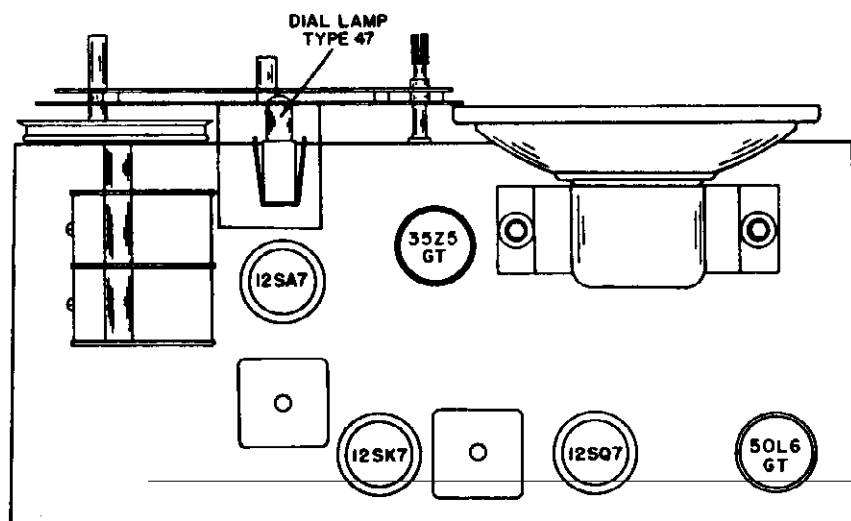

Fig. 2. Top View of Chassis Showing Location of Tubes and Dial Lamp
**TUBE AND DIAL LAMP REPLACEMENT** - Refer to Fig. 2. for the location of the tubes and dial lamp used in the receiver. It will be necessary to remove the back cover from the cabinet to gain access to the tubes and dial lamp. To prevent damage to the tuning capacitor, set the TUNING control fully counterclockwise before making any replacement. When replacing tubes, check the tube type carefully and replace it with the correct type. The dial lamp and socket can be removed by compressing the side springs on the socket. Replacement of the dial lamp should be made with a 6-8 volt, Mazda #47 (brown bead) pilot lamp or equivalent.